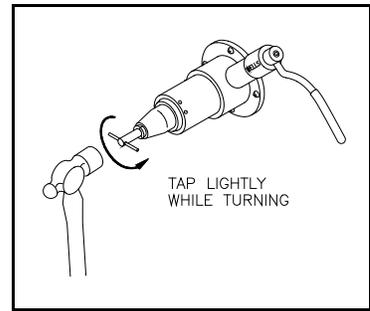

Figure 5.
- 6.4.3 Insert the collet wrench. Tap the end of the collet wrench **LIGHTLY** while turning the collet wrench counterclockwise. See Figure 5. If this does not release the collet, continue with the next step.